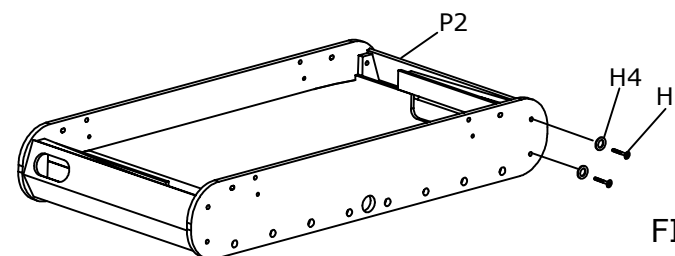

FIGURE 2
2. Attach the two end panels **P2** to the side panels **P1** as shown in **figure2**. Remember the groove must face towards the playfield. Attach the end panels with bolts **H1** and washers **H4** into the pre-installed dowel connectors. **don't over tighten the hardware** .